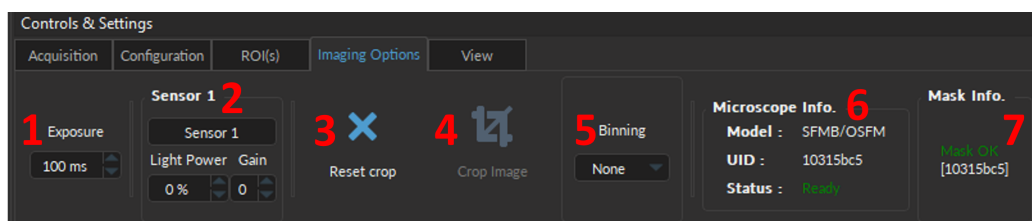

Figure 7.17: Imaging Options Tab
1. The **Exposure (ms)** textbox (Fig. 7.17, 1) specifies the length of time that the microscope sensor collects light from the sample. There are trade-offs between exposure time, image brightness, and phototoxicity.
2. The **Sensor 1** (Fig. 7.17, 2)
3. The **Rest Crop** button (Fig. 7.17, 3) will remove any crop applied to the image and reset the image size to its maximal value. The change will only appear when a new **Capture** sequence is activated.
4. The **Crop Image** button (Fig. 7.17, 4) will chop unwanted section of the **Microscope View** by drawing a square on the video feed. When a new **Capture** sequence is activated, only the cropped region will be captured. Note that the image size will automatically be adjusted to the new resolution.
5. The **Binning** drop-down (Fig. 7.17, 5) averages the pixels values based on the binning value selected: either none, 2x2 or 4x4 pixel squares will be average together. This reduces the number of pixels for smaller save file sizes. Note that **Size** of the frame will be automatically adjusted based on the binning:
6. The **Microscope Info.** (Fig. 7.17, 6)
7. The **Mask Info.** (Fig. 7.17, 7) displays the which is used to calibrate the microscope image. For 1-colour microscopes (SFMB, eSFMB and eTFMB), the masque are automatically loaded when the **Microscope Driver** module is opened.
- **ROI label** - displays the ROI **Name** (specified within the **Name** column of **ROI(s) Information** tab; Fig., 7.25, b), followed by the **Sensor Name** in parenthesis (which can be specified in Fig. 7.17, 2).